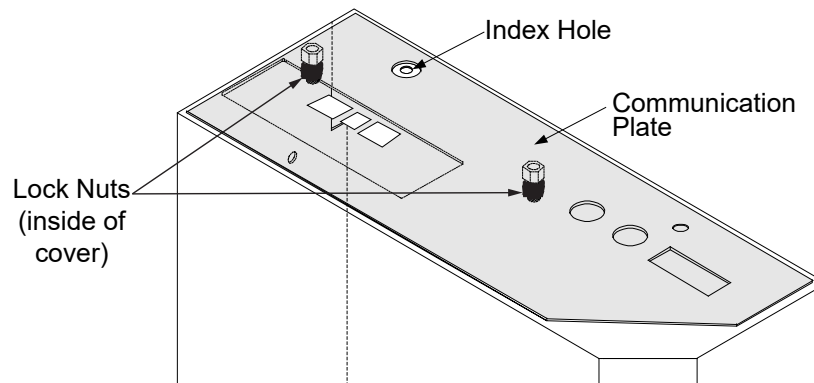

Figure 5-5 M-6200A Control Rear Cover, Communication Plate Orientation
1. Remove and discard the two lock nuts (Figure 5-5) from the inside of the rear cover; then remove the communication plate.
2. Insert the appropriate communication plate onto the top panel of the rear cover, ensuring that the index hole (Figure 5-5) is exposed.
3. Install the kit's lock nuts onto the communication plate's captive screws to secure the rear cover (Figure 5-5).